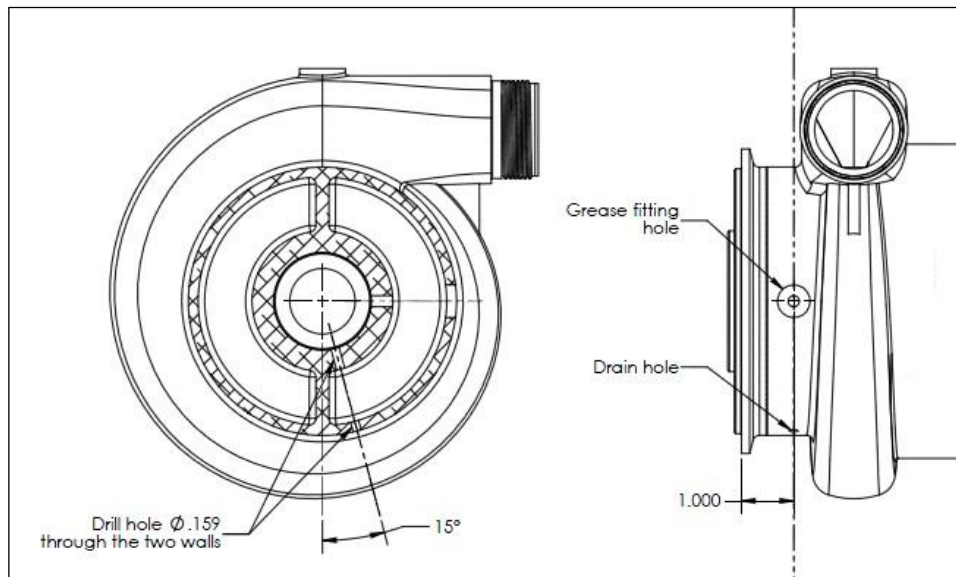

Figure 3: Location of drain hole
5. *If equipped with the Pump Body Drain Hole Drilling Jig (600102), proceed to Step 6.* Mark the location of the holes on the pump body using a punch. The holes should be at approximately 15° from the vertical line and at a distance of 1.000" from the pump body mating surface. See Figure 3. Proceed to Step 9 if you are not using the drilling jig.